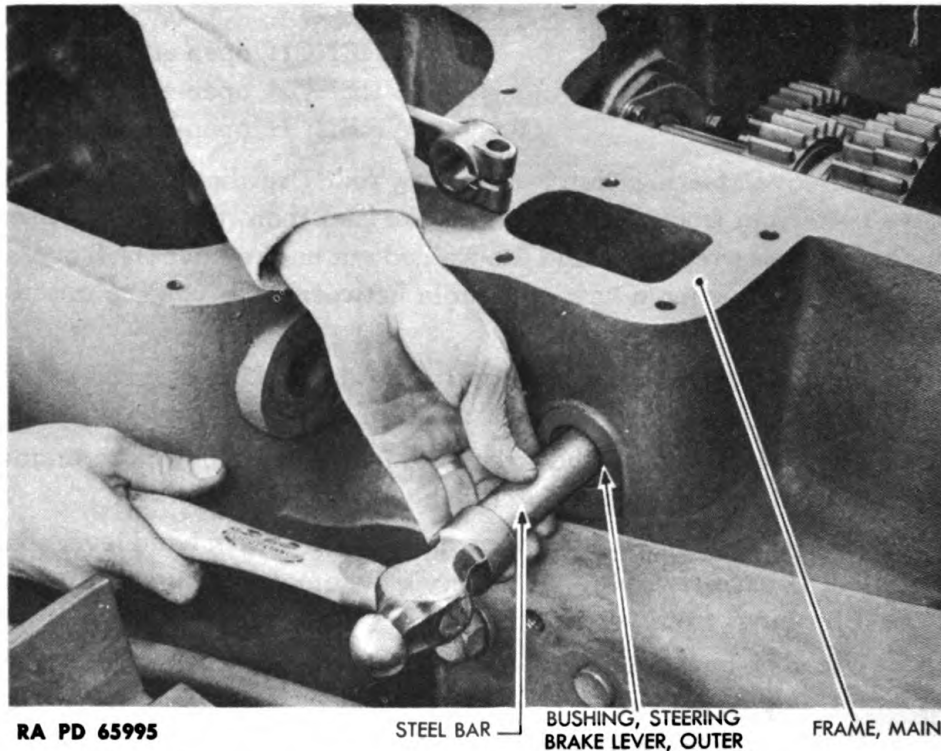

Figure 117 — Steering Brake Lever Outer Bushing Removal
(4) REMOVE RIGHT STEERING BRAKE LEVER OUTER BUSHING (fig. 117).
(1) **INSTALL RIGHT STEERING BRAKE LEVER OUTER BUSHING** (fig. 117).
(2) **INSTALL LEFT STEERING BRAKE LEVER OUTER BUSHING** (fig. 117).